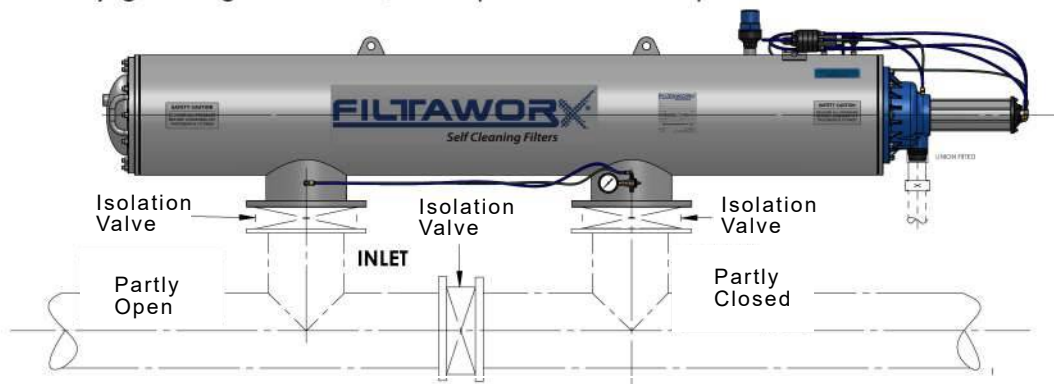

Figure 7 - Filter Fill with Water
9. Fill the filter with water, close the outlet valve and part open the inlet, you will hear air leaving the air release valve. This will take a few minutes. See Figure 7 below.